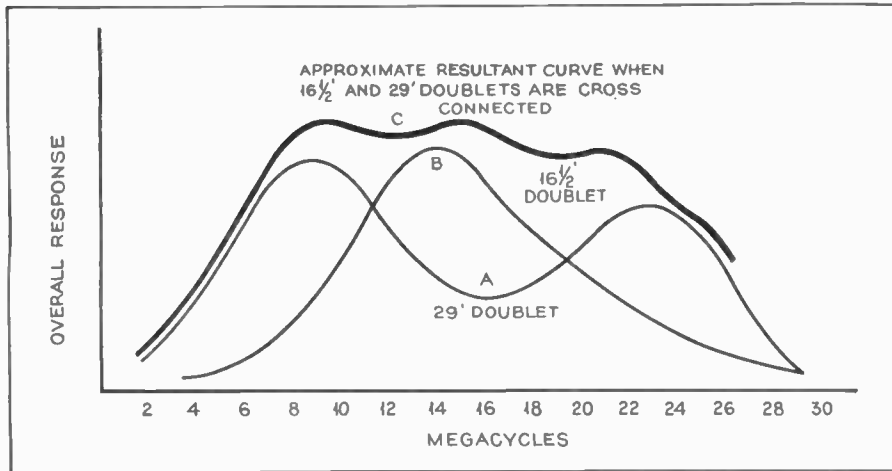

Figure 82
At the frequency of the resonance of either the long or the short doublet, the impedance of the antenna system is somewhat lower than the line impedance. Thus it can be seen that the line impedance chosen is a good compromise value. The performance of the "double-doublet" is compared to that of single doublets in the curves of Figure 82.
The long doublet is resonant in the half-wave node at about 8 mc. and in the $3/2$ node at 24 mc., as in Curve (A), Figure 82. The short doublet is resonant at about 14 mc., Curve (B). The response of the combination is relatively flat over the important part of the short-wave spectrum, as in Curve (C).